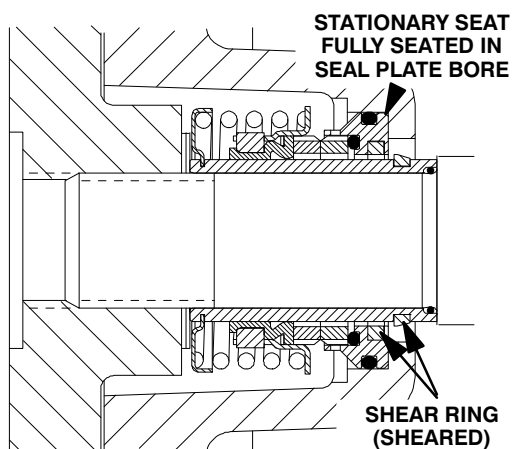

**Figure 9. Seal Partially Installed**
set of impeller shims (2) provided with the seal and screw the impeller onto the shaft until it is seated against the seal (see Figure 9).